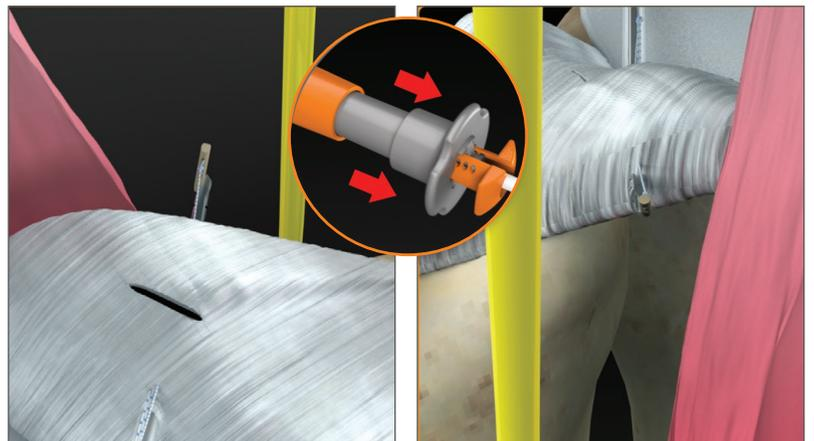

Figure 7
9. Pull the needle tip slightly away from the skin and advance the slider all the way forward to deploy T1 on the outside of the ulnar wrist capsule. A click will be heard and the deployment slider will return to its most proximal position. (See **Figure 7**)